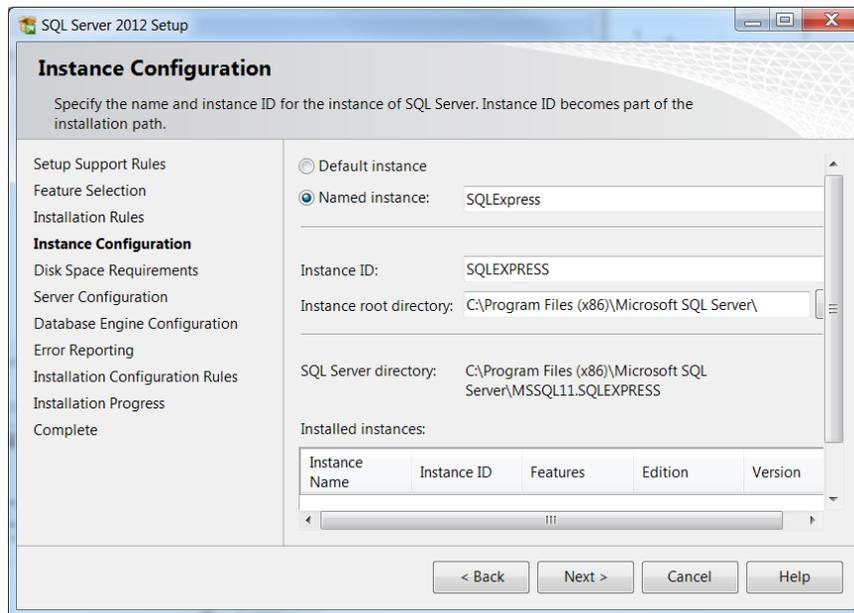

Figure 15: SQL Server 2012 Setup Instance Configuration
9) At the Instance Configuration window (Figure 15), if keeping the selected Named instance option, click **Next**.